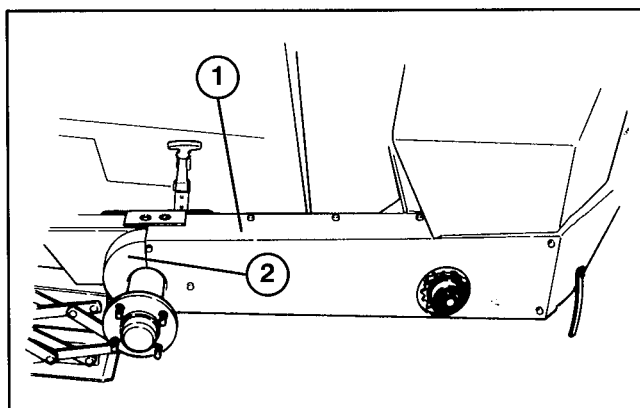

Figure 6
3. Slide chain guard onto chassis aligning mounting holes (Fig. 6).
5. Slide sprocket guard into position aligning mounting holes. Front tab to be positioned under chain guard (Fig. 6).
6. Secure rear of sprocket guard to chassis with a 1/4-20 x 1/2" lg. self tapping screw (Fig. 6).
7. Secure front of sprocket guard and (4) remaining chain guard mounting holes to chassis with (5) 1/4-20 x 1/2" lg. self tapping screws. Tighten all fasteners.
8. Hook latch securing clutch cover to chain guard (Fig. 6).
9. Remove capscrew, lockwasher, washer and special nut securing idler sprocket to chassis (Fig. 6).